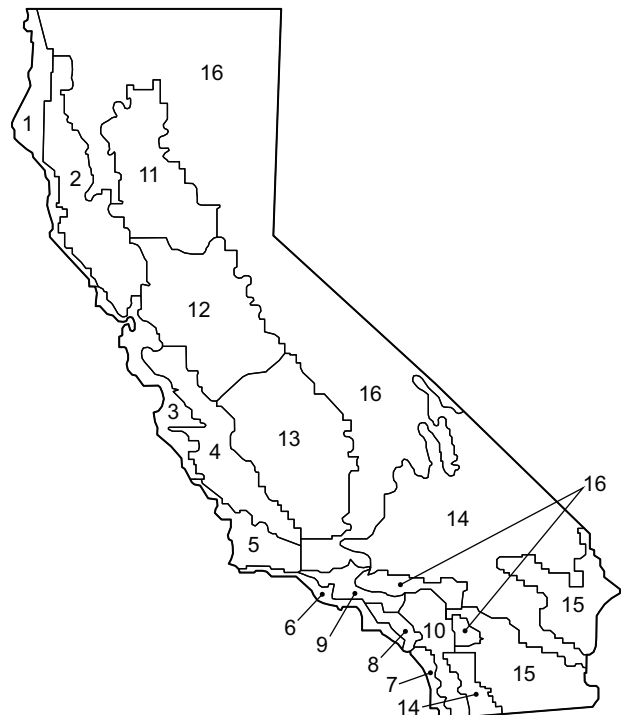

Fig. 74 — California Title 24 Zones
b. See Fig. 74 for map of California Title 24 zones.